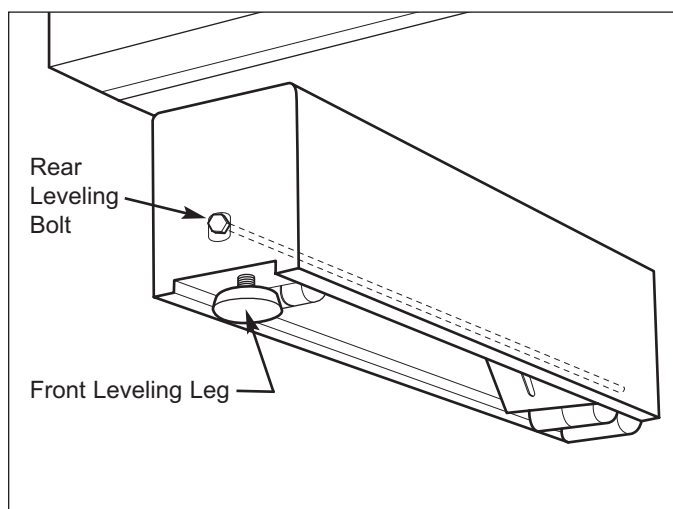

Figure 2-12. Unit Leveling
2. To raise unit front, turn front leveler legs clockwise to raise, counterclockwise to lower (See Figure 2-12).
3. Rear adjustment can be completed from the front of unit through unit base. To raise unit rear, use 3/8" (10 mm) socket wrench with an extension to turn 3/8" (10 mm) rear leveling bolt clockwise to raise, counterclockwise to lower (See Figure 2-12).